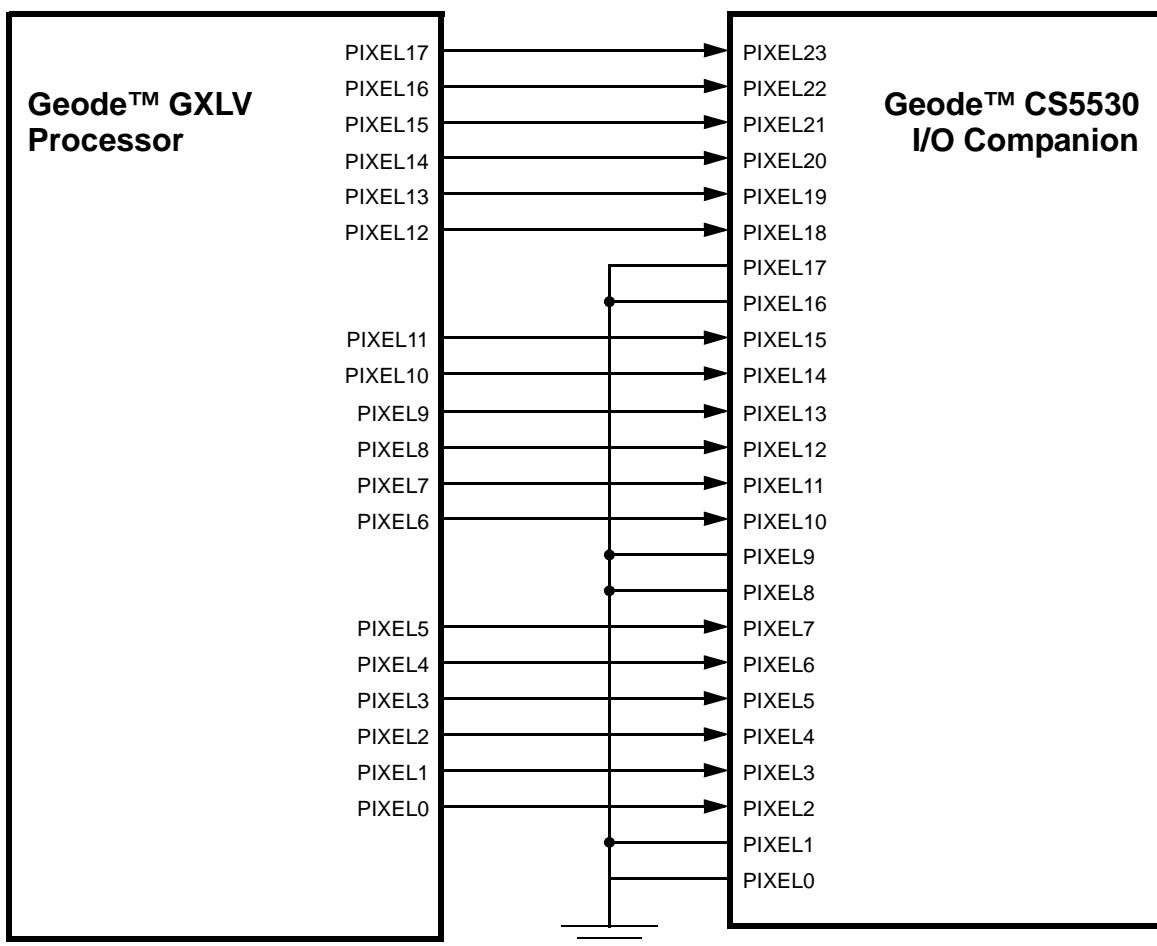

Figure 3-3. PIXEL Signal Connections
**Note:** Refer to Figure 3-3 for correct interconnection of PIXEL lines with the processor.
Figure 3-3 details how PIXEL[17:0] on the processor connects with PIXEL[23:0] of the CS5530.
**Note:** \*Connect PIXEL[17:16] PIXEL[9:8], and PIXEL[1:0] on the CS5530 to ground. See Figure 3-3.